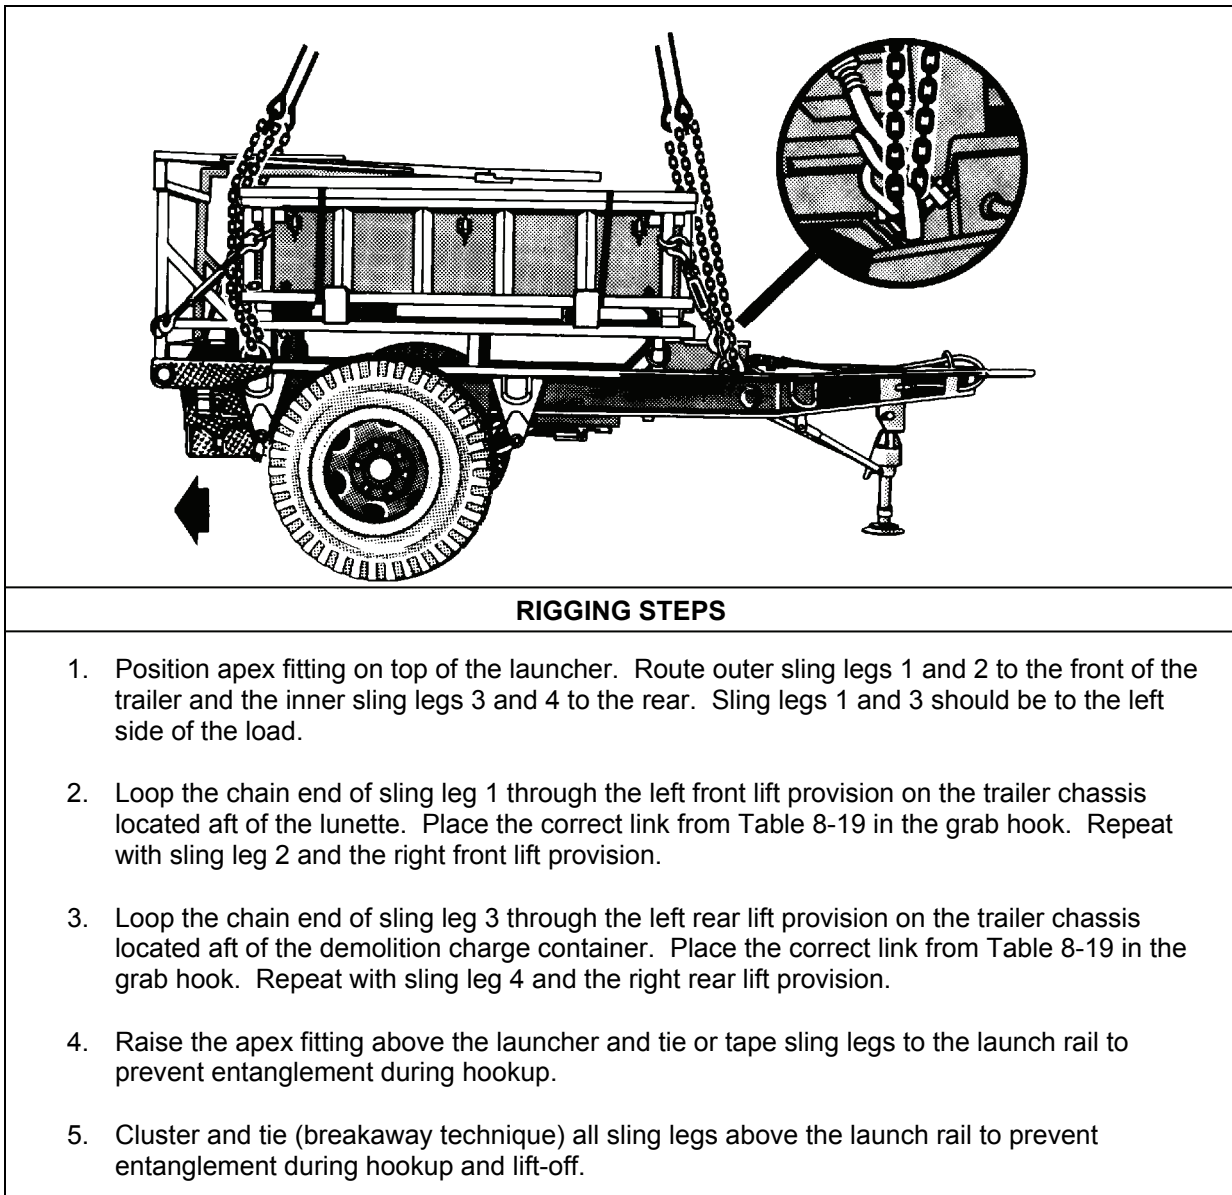

Figure 8-19. Mk155 Launcher on M200A1 or Mobile-Trac System Trailer
- **Rigging.** Rig the load according to the steps in Figure 8-19.